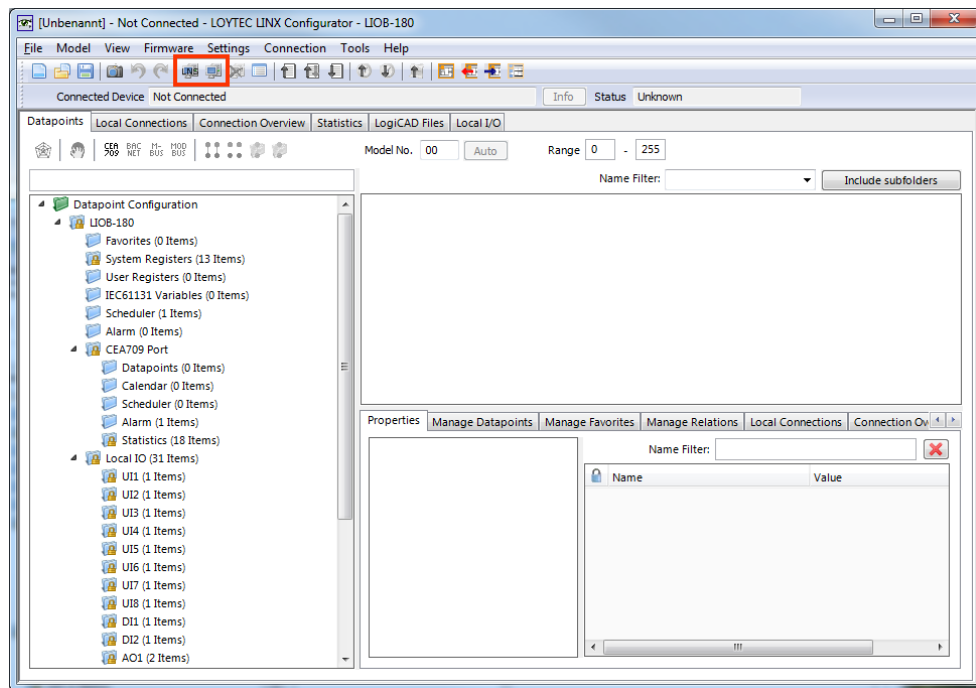

Figure 17: L-INX Configurator main screen
1. Start the L-INX Configurator software by selecting Windows **Start → Programs → LOYTEC LINX Configurator → LOYTEC LINX Configurator**. The application starts up and displays the data point manager screen as shown in Figure 17.
2. When the device is online, connect to the device by clicking on the LNS or device connect speed button as indicated by the red rectangle in Figure 17.